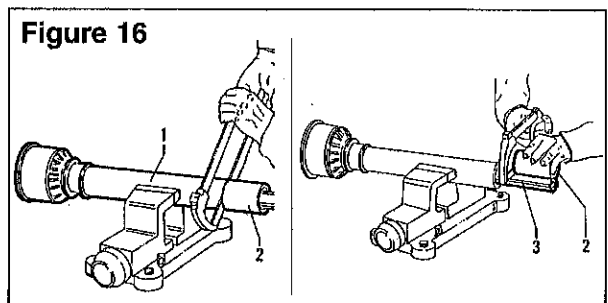

Figure 16
4. If driveline must be cut to a shorter length, clamp driveline in a well padded vise to prevent damage to the shield. Cut off shield where marked. Using cut-off section of shield as a guide, cut shaft the same amount. (Figure 16.)